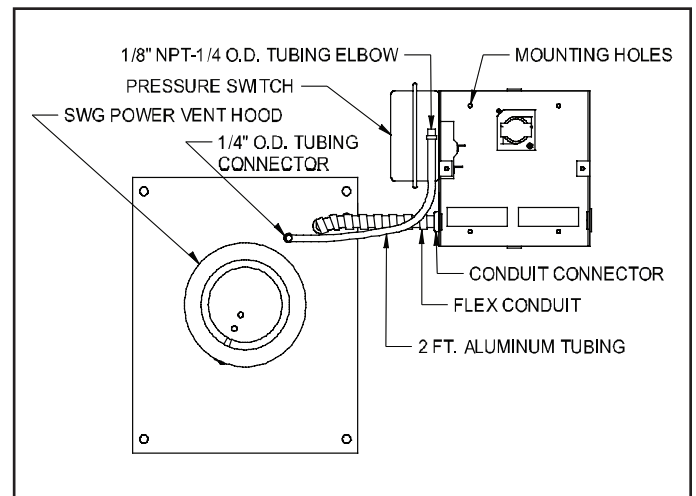

Figure 3
2. Fasten the flexible conduit from the SWGII-4CC Venter into the conduit connector. Mount the CK-43CC junction box or installer-supplied junction box onto the wall or floor joist without straining the flexible conduit. Fasten the CK-43CC junction box through the four dimpled locations on the base of the box. (See Fig. 3)
1. Attach the 1/4" diameter tubing connector to the pressure tube on the SWGII-4CC Venter. (See Fig. 3)